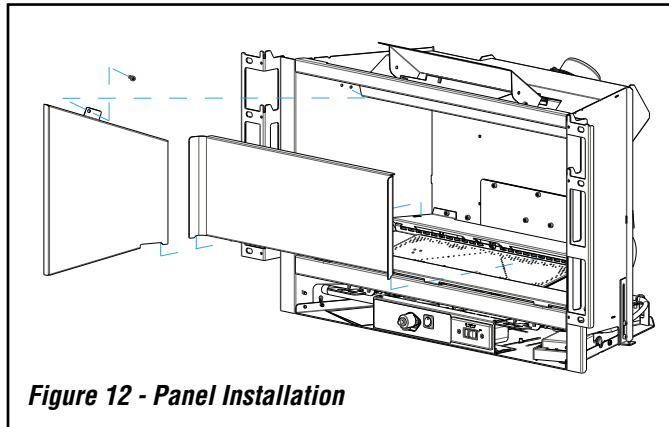

Figure 12 - Panel Installation
3. Install the rear panel by inserting the tabs on the bottom of each end into the slots on the rear burner-retaining tray (see **Figure 12**).
4. Install one side panel by inserting the tab (located on the bottom edge near the back) into the same slot as one side of the rear panel (see **Figure 12**). Fasten in place using one screw from the brackets removed in step 2. Repeat for the other side panel.